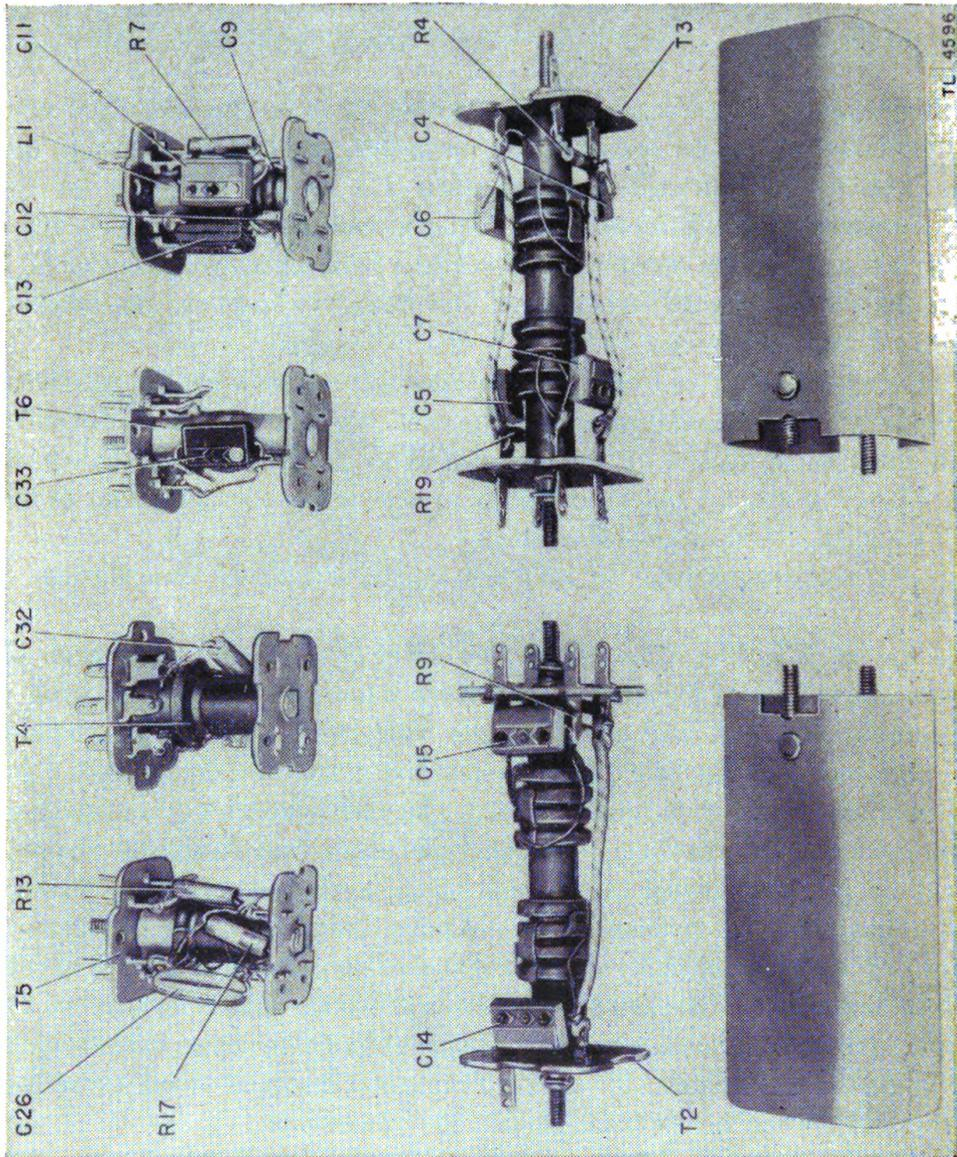

FIGURE 18.—I-f transformers and r-f and e-w coil assemblies.
h. I-f transformers and r-f and c-w coil assemblies.—See figures 18 and 19.